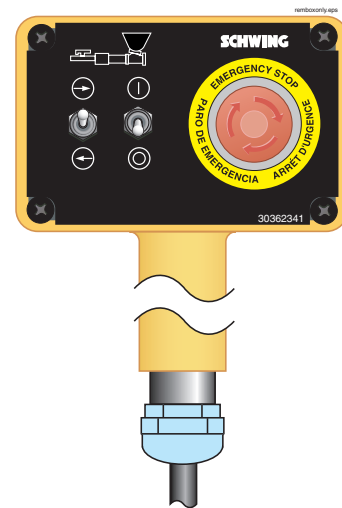

Figure 19
- When the placing crew signals to begin pumping, activate the switch of the control panel or the remote control box (Figure 19). To get warning of